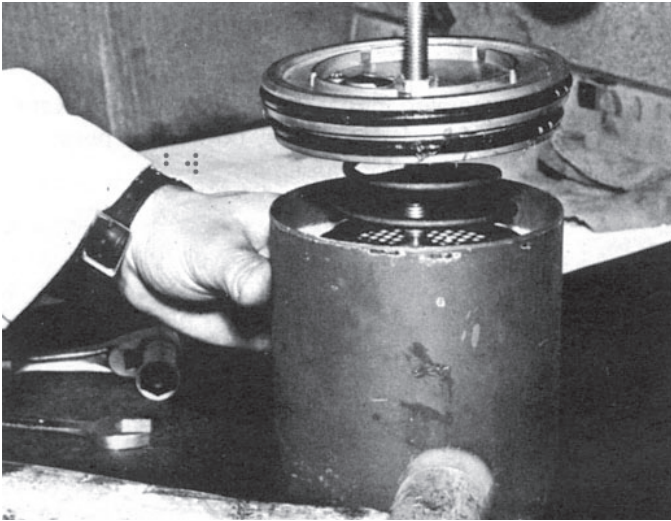

Figure 3—Desiccant Plate Installation
1. Install the new ball check valve (5) with the retainer and screw.
2. Thoroughly lubricate the plate o-rings (1 & 2) with the lubricant (7) furnished in this kit. Install each in their proper groove in the plate. Set the completed plate assembly aside for later installation.
3. Remove the metal tag and the locknut (4) which holds the spring retainer and spring in position on the new cartridge (6).
4. Secure the assembly with locknut (4). Be sure to place the metal tag under the locknut (4) so that the text is visible. Turn the locknut (4) to draw the assembly together until the spring is compressed to half the free height. While compressing the spring, slowly turn the cartridge (6) tapping the side of the shell with a plastic mallet. This allows the desiccant material to settle properly into place. Continue to tighten the locknut (4) making sure all items are properly aligned. Tighten the nut firmly using an 11/16" socket or box wrench. (See Figure 3.)